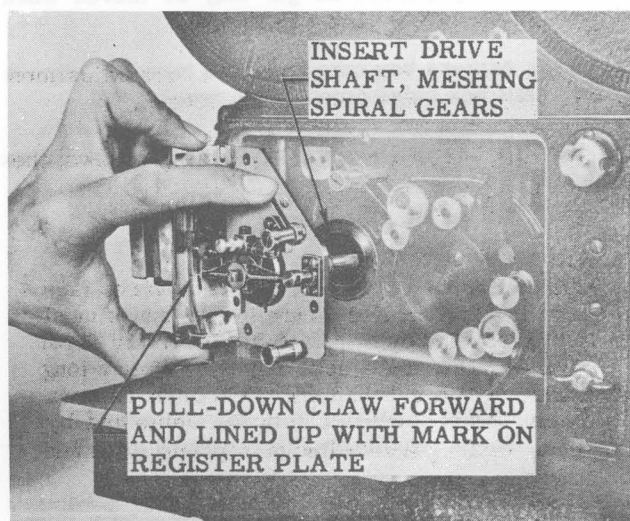

Figure 5-3. Installing Movement
c. Set pull-down lever in engaged position and in line with scribed mark on register plate. (See figure 5-3.)